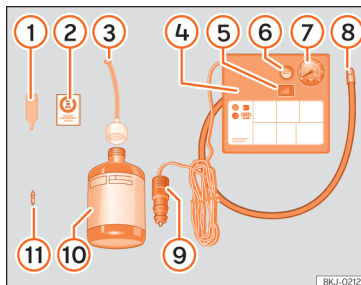

Fig. 41 Standard representation: anti-puncture kit contents.
» **Fig. 41:**
- Unscrew the tyre valve cap and insert. Use the » **Fig. 41** 1 tool to remove the insert. Place it on a clean surface.
- Shake the tyre sealant bottle vigorously » **Fig. 41** 10.
- Screw the inflator tube » **Fig. 41** 3 into the sealant bottle. The bottle's seal will break automatically.
- Remove the lid from the filling tube » **Fig. 41** 3 and screw the open end of the tube into the tyre valve.
- Place the insert back into the tyre valve using the tool » **Fig. 41 ①**.
- Screw the compressor tyre inflator tube » **Fig. 41 ⑧** into the tyre valve.
- Check that the air bleed screw is closed » **Fig. 41 ⑥**.
- Insert the connector » **Fig. 41 ⑨** into the vehicle's 12-volt socket » **page 158**.
- Turn the air compressor on with the ON/OFF switch » **Fig. 41 ⑤**.
- Attach the sticker » **Fig. 41 ②** to the instrument cluster, within the driver's visual field.
Screw the inflator tube » **Fig. 41 ⑤** again and check the pressure on the gauge **⑥**.